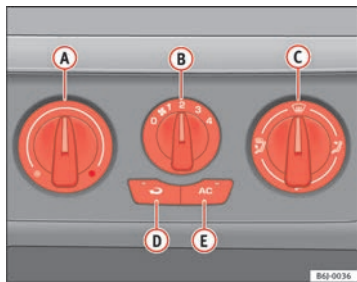

Fig. 94 Heating controls on the dash panel
- Turn the temperature selector ⇒ fig. 94 **A** anti-clockwise.
- Turn the temperature selector ⇒ fig. 94 **A** clockwise to select the desired temperature.
- Turn the temperature selector ⇒ fig. 94 **A** clockwise to reach the maximum temperature.
- Turn the temperature selector ⇒ fig. 94 **A** to the heating zone.
- Close outlets ③
- Open and turn outlets ④ towards side windows